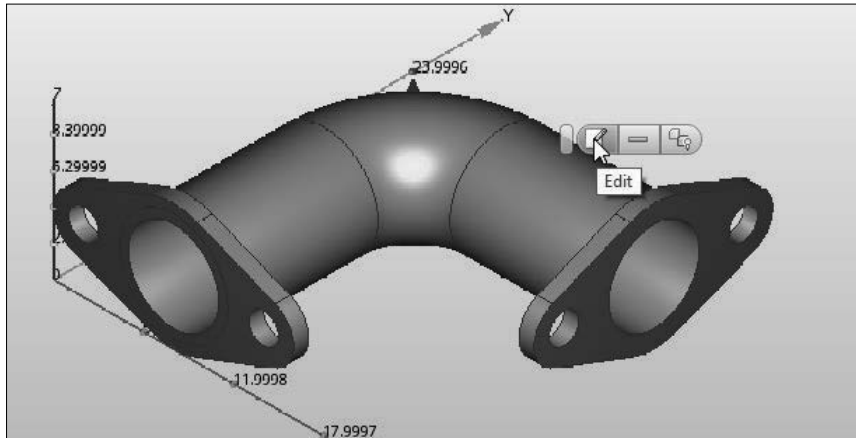

Figure-5. Context toolbar of model
- Left-click on the model, the context toolbar will be displayed. Click on the **Edit** button from the displayed toolbar; refer to Figure-5. The **Materials** dialog box will be displayed.